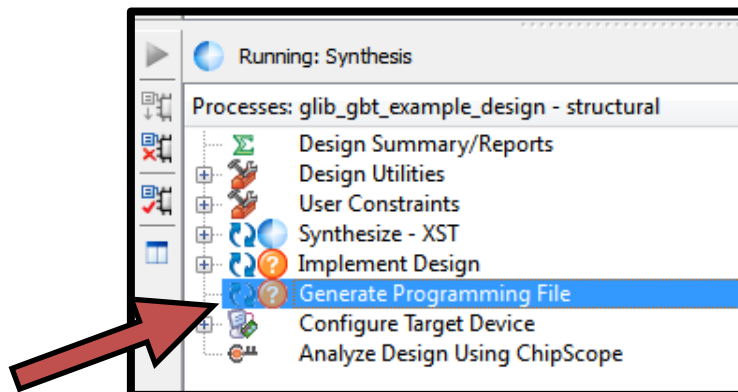

Figure 32: Processes running after clicking on "Genera Programming File"
14. Double click on the "Generate Programming file" process to synthesize and implement the project as well as to generate the programming file (.bit). You should see a blue sphere spinning near the process that is running (see Figure 32).